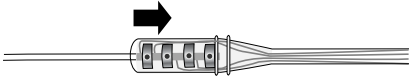

Figure 14. Insert lead into extension setscrew connector.
3. Insert the lead fully into the extension setscrew connector. The four metal bands on the lead should be aligned under the four setscrews (Figure 14).